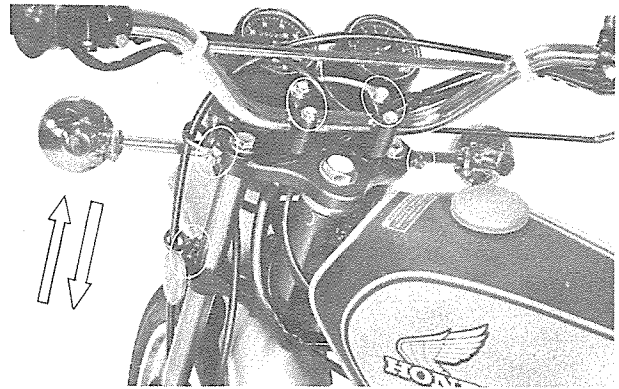

Fig. 2-32
2. Check all bolts to determine that these are tight and secured in position. See Fig. 2-32.